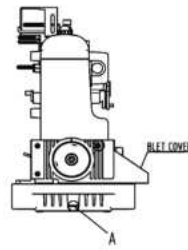
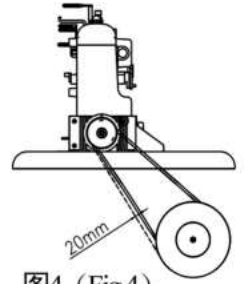

图3 (Fig.3)
图4 (Fig.4)
2、马达转向为顺时针方向，皮带的松紧度以手指向内压下20mm为宜，同时为安全起见，把皮带轮盖必须锁上。（图3&4）
2、Mount the machine head over the rest board Connect the machine hand wheel to the clutch motor with the V-belt. Adjust the tension of the V-belt so that it can be about 20 mm bent inward when you presse the center of V-belt and make sure the clutch motor turning direction is clockwise as shown Figure 3. Install the belt cover according to Figure 4.
(2) 润滑油的更换(图3)
2. Lubricant oil change : (Fig.3)